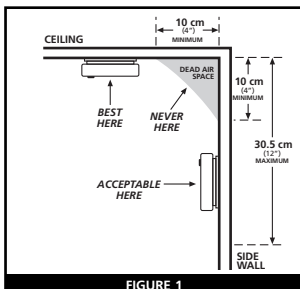

FIGURE 1
- When mounting an alarm on the ceiling, locate it at a minimum of 10 cm (4") from the side wall. (see Figure 1).
- When mounting the alarm on the wall, use an inside wall with the top edge of the alarm at a minimum of 10 cm (4") and a maximum of 30.5 cm (10") below the ceiling. (see Figure 1).
- In homes that are not well insulated, extreme heat or cold can be transferred from the outside to the inside through poorly insulated walls and roof. This may create a thermal barrier which can prevent the smoke from reaching an alarm mounted on the ceiling. If you are not sure about the insulation in your home, or if you notice that the outer walls and ceiling are either hot or cold, install the alarm on an inside wall. In such homes, install the smoke alarm with the top edge of the alarm at a minimum of 4" (10 cm) and a maximum of 12" (30.5 cm) below the ceiling (see figure 1).
Modern caravans and mobile homes have been designed and built to be energy efficient. Install smoke alarms as recommended (see Figures 1 and 2).
In older caravans and mobile homes that are not well insulated compared to present standards, extreme heat or cold can be transferred from the outside to the inside through poorly insulated walls and roof. This may create a thermal barrier which can prevent the smoke from reaching an alarm mounted on the ceiling. In such units, install the smoke alarm on an inside wall with the top edge of the alarm at a minimum of 10 cm (4") and a maximum of 30.5 cm (12") below the ceiling (see Figure 1).